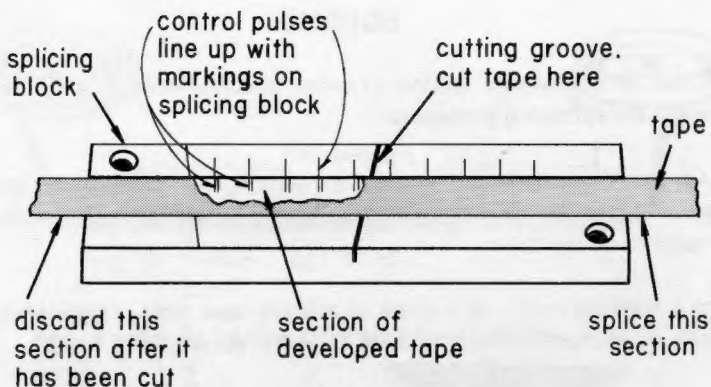

Fig. 6b. Insert second section from opposite side and cut as above.
- Repeat steps 1 through 5 to cut the second section of tape. This section should be inserted into the block on the opposite side of the cutting groove. See Fig. 6b.